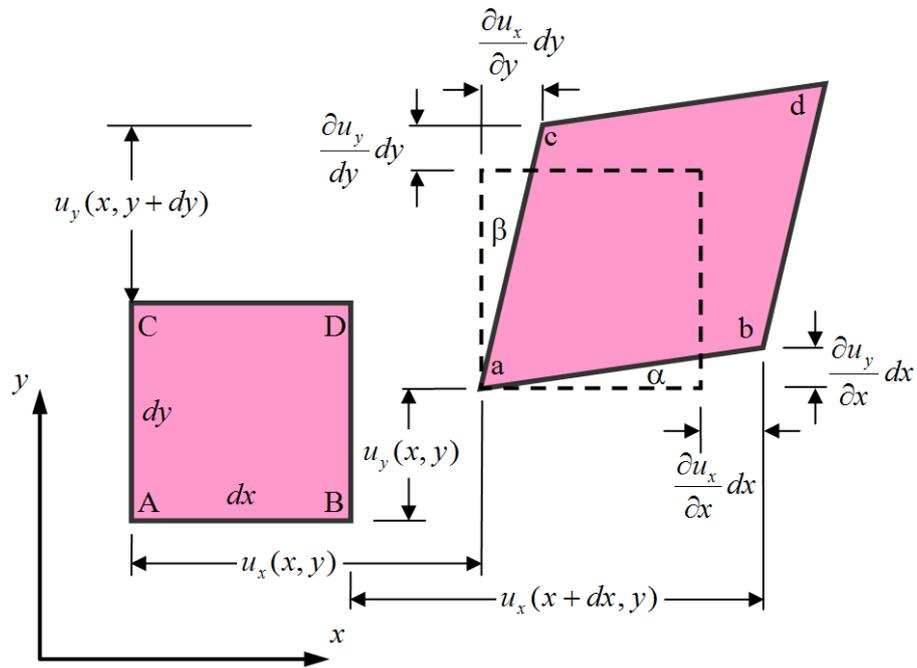

Figure 4: An infinitesimal small deformed rectangle
The relation (7) is a purely geometric one. Consider an infinitesimal small square of size dx and dy , and its deformed geometry as depicted in figure 4. The strain is defined as the stretching of the element, i.e. $\varepsilon_{xx} = \frac{\text{length}(ab) - \text{length}(AB)}{\text{length}(AB)}$. The complete derivations of these quantities is described well in the Wikipedia article on strain, and the result is the following relations